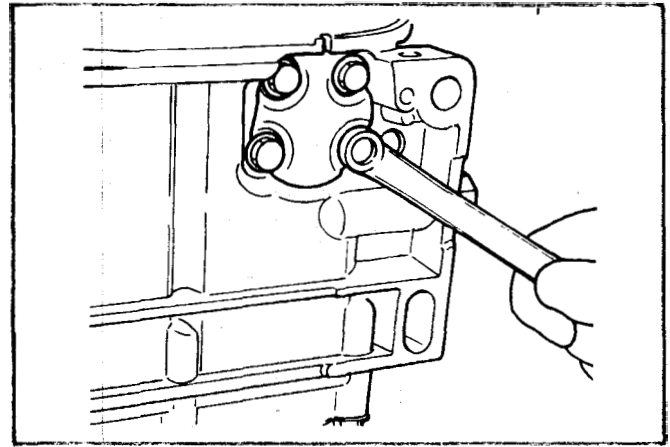

Figure 52
5. Remove the four screws retaining the oil level switch. See Figure 52.